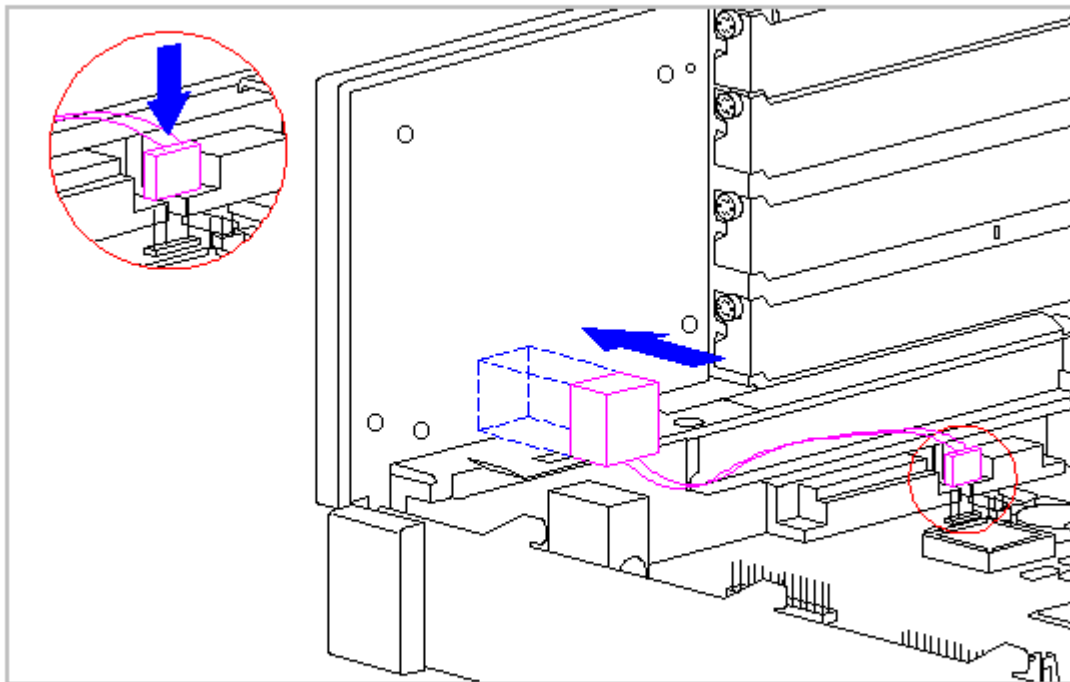

Figure 5-52. Installing a Replacement Battery
3. Mount the replacement battery on the rear panel of the base pan as shown in Figure 5-52. The battery is secured to the panel with an adhesive-backed hook-loop fastener. Remove the protective covering from the adhesive surface of the hook-loop fastener and install the battery.
5. Connect the battery cable to connector P3 on the system board as shown in Figure 5-52.